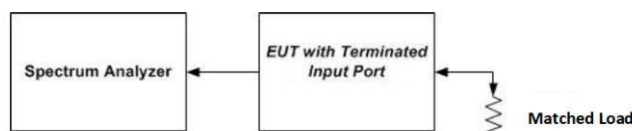

Figure 3 – Noise limit test setup
- a) Connect the EUT to the test equipment as shown in Figure 3. Begin with the uplink output (donor) port connected to the spectrum analyzer. When measuring downlink noise, connect the downlink output (server) port to the spectrum analyzer.
NOTE—Some signal boosters will require a signal generator input because they will not operate unless a signal is received at the input terminals. If this is the case, for the setups shown in Figure 3 and Figure 4 connect a second signal generator at the server port, then cycle the RF output of the second signal generator to simulate this function.
- Connect the EUT to the test equipment as shown in Figure 3 with the uplink output (donor) port connected to the spectrum analyzer.